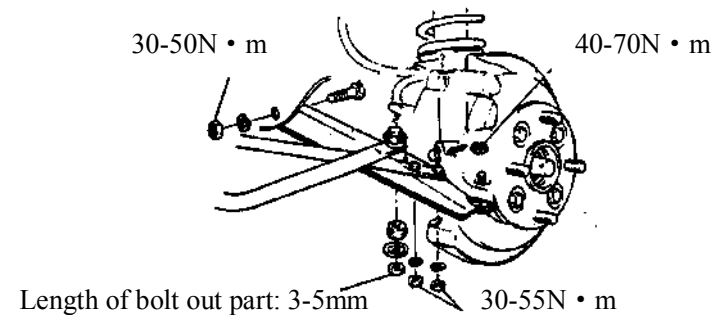
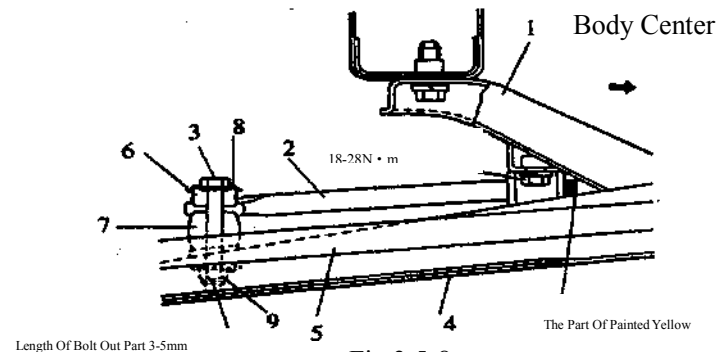

Fig.3.5-6
Fig.3.5-8
- (4) Install the retarder to the body and screw the nut to the specified torque: 20-30N · m.
- (5) Screw the sizing bolt of the steering knuckle and steering knuckle nut to the specified torque respectively. Please refer to Fig.3.5-6
- (6) Install the brake hose. Do not torsion the hose. The oil pipe clamp card shall be correctly installed. 25-35N · m
- (1) Examine whether there exists crack, deformation and damage.
- (2) Examine whether the rotating and swinging process of the oversize ball pin is in balance.
(3) Install the anti-way bar to the cantilever by applying cushion pad, washer, bolt and nut. Screw the nut to the extent which can be done by hand. Please refer to Fig.3.5-8.
(4) Install the stabilizing pull rod to the cantilever, and screw the nut to the extent which can be done by hand.
(5) Install the ball pin to the steering knuckle.
(6) Screw all the screws and nuts to the specified torque. Please refer to Fig.3.5-6.
(7) Install the cotter pin to the ball pin and castellated nut, the oil paint shall be coated to avoid rust.
Assembly: Please refer to Fig.3.5-8